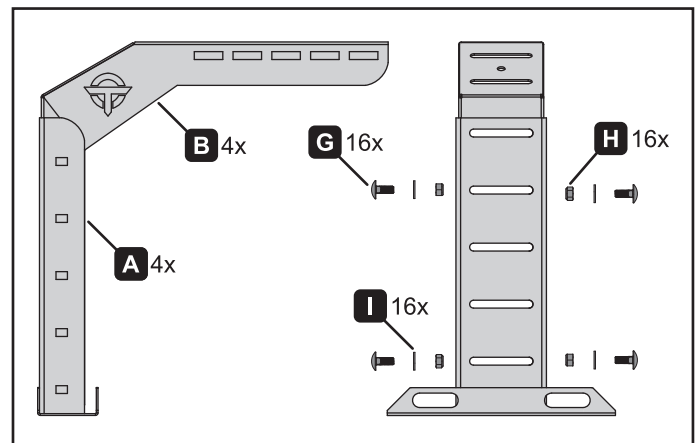

Figure 2. Leg assembly
2. Place a lower leg and upper leg on a work bench. Using the 20mm carriage bolts (G), washers (I) and lock nuts (H), assemble the lower and upper leg at the height determined in step 1. Torque the nuts to 18 ft/lb. Repeat this step to complete the four leg assemblies (figure 2).